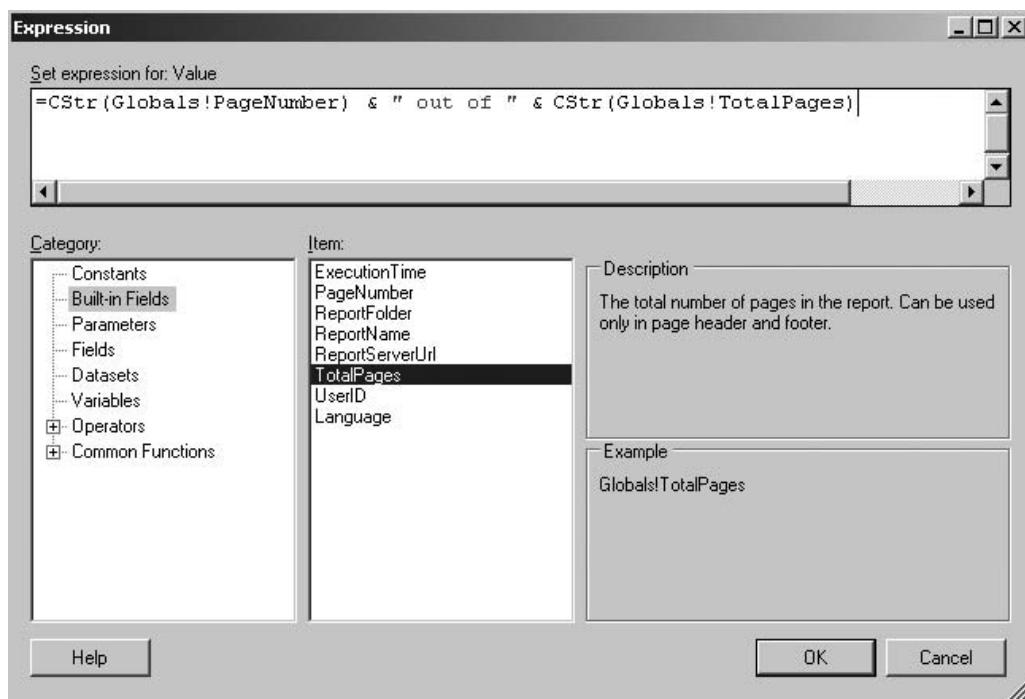

Figure 16-41 The page number expression for the text box in the page footer
72. Type **). The Edit Expression dialog box appears as shown in Figure 16-41.**